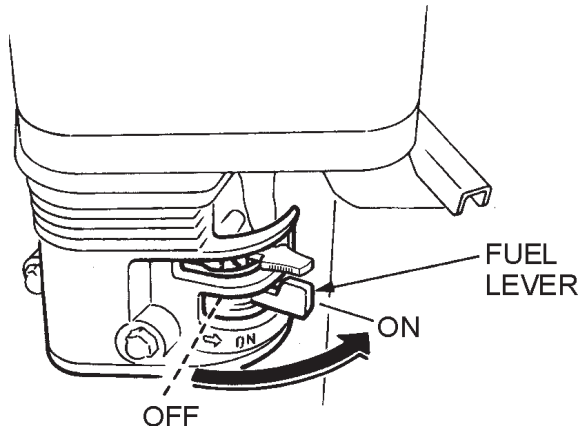

Figure 24. Engine Fuel Valve Lever
1. Place the engine **fuel valve lever** (Figure 24) to the "ON" position.